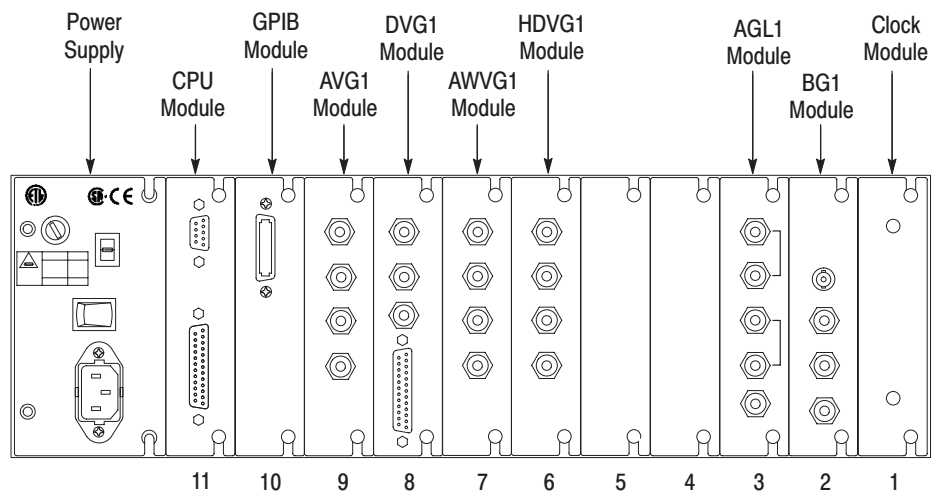

Figure C-1: Rear panel slot numbering
2. Select the slot you will use to install the module. Table C-1 lists the slot restrictions. Figure C-1 shows a sample configuration with slot numbers.